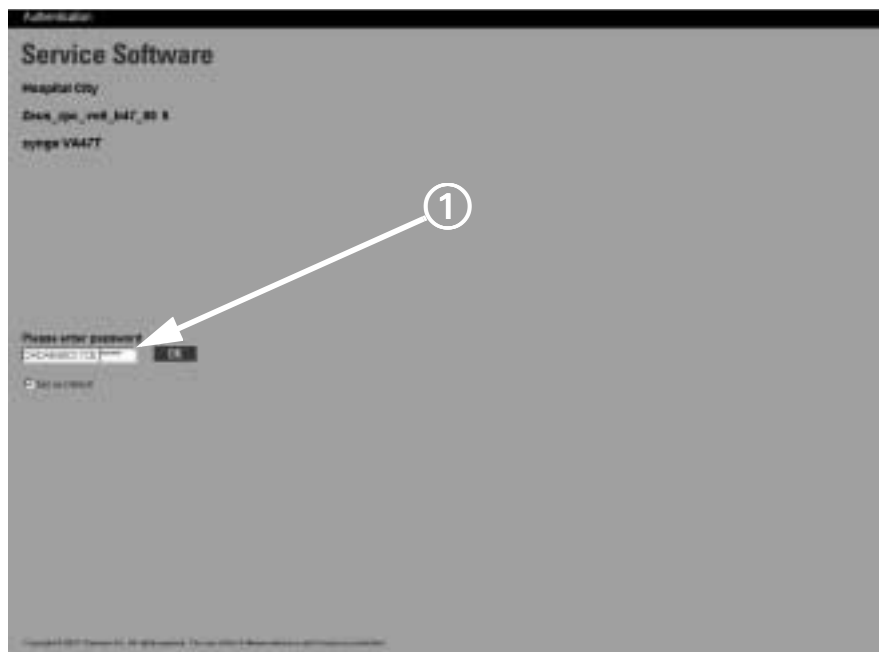

Figure 13-2 Syngo Service (Service Menu)
3. Enter Syngo license key in blank boxes (① in Figure 13-2), and then click *OK* to bring up Syngo Service Home Menu screen.